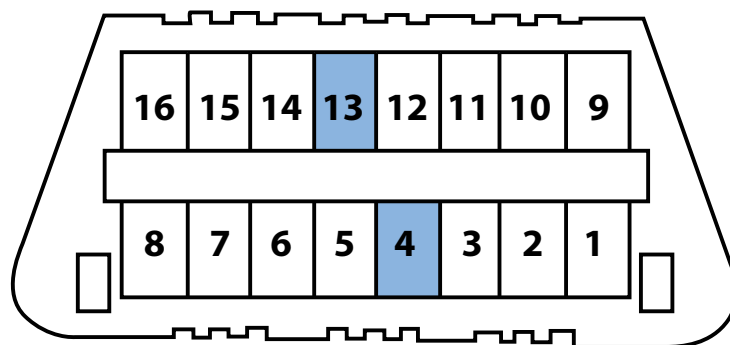

Fig. 2.
2. Use a jumper wire to connect terminals 4 and 13 of the 16pin OBD diagnostic socket as shown in fig. 2.
2. Re-connect the jumper wire as shown previously in Figure 2.
2. Re-connect the jumper wire as shown previously in figure 2.